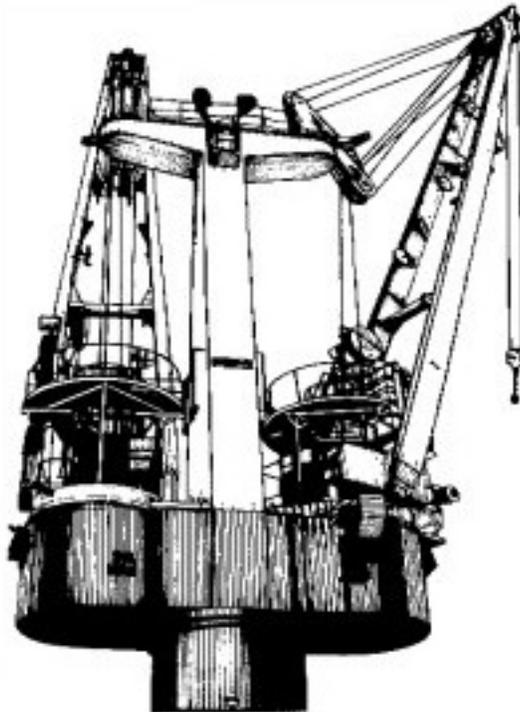

Figure 3-44
1. Set up the Hagglands crane in twin mode (see Figure 3-44).